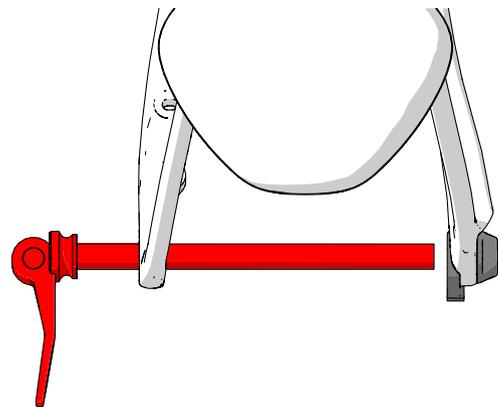
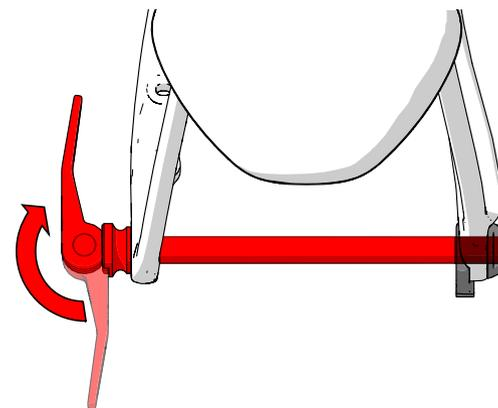

fig. 15
fig. 17
8. With a through axle mechanism, slide the through axle through the left dropout and wheel hub until it contacts the dropout on the right side of the frame (fig 15). Visually align the through axle with the dropout hole on the right side of the frame, and turn the preload lever clockwise to thread the axle into the dropout. Move the preload lever into the CLOSED position (fig. 17). The lever should now be parallel to the seatstay and curved toward the wheel. To apply enough clamping force, you should have to wrap your fingers around the seatstay or chainstay for leverage, and the lever should leave a clear imprint in the palm of your hand.